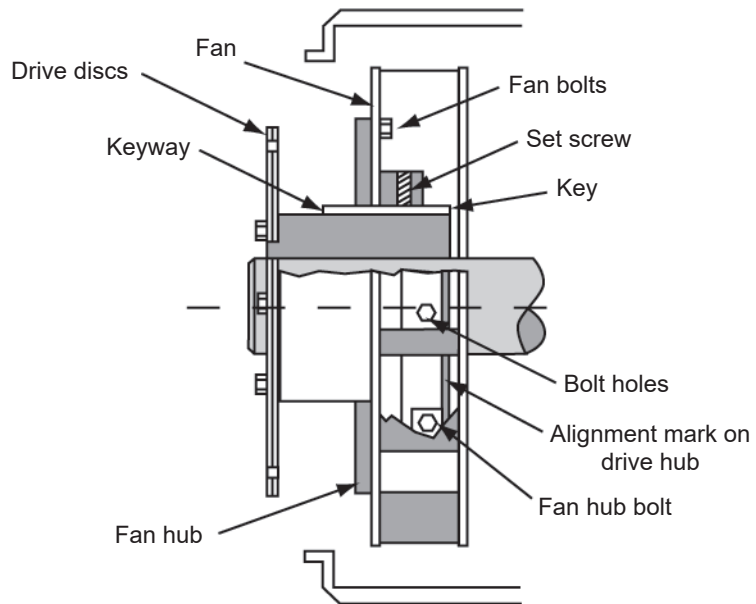

Figure 15 Moving Sheet Metal Fans
- With sheet metal fans with cast hubs that are in turn mounted on the drive hub, mark the drive hub as close as possible to the fan hub. Loosen the two set screws, the fan clamping bolt, and the fan bolts. Wedge the fan open, and move it out of the way (See Figure 15). After attaching the drive discs-to-flywheel bolts, align the fan hub to the mark to move the fan back to its original position. Ensure the key is fully in place under the fan hub and positioned so the set screw will press on the key. Tighten the fan hub clamping bolt and the set screws. Install the fan bolts and torque them according to Table 5 and Table 6.